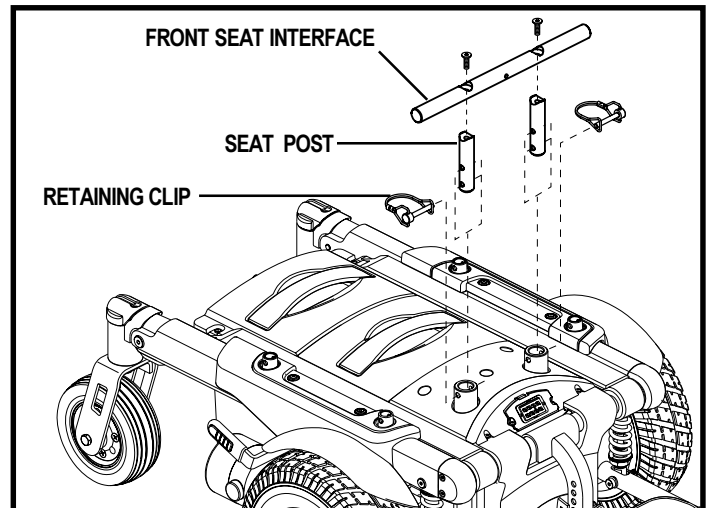

Figure 16. Front Seat Interface Height Adjustment
You can change the seat height to one of two positions in 2.5 cm increments by raising the front seat interface and side frame handles. See figures 16 and 17. If you raise or lower either the front seat interface or the side frame handles, you can also change the seat base angle (dump).
4. Loosen the screws that attach the side frame handles and front seat interface to the seat posts. See figures 16 and 17.